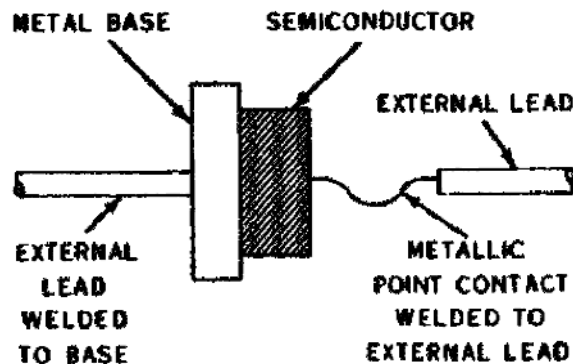

Figure 112. Physical construction of a point-contact diode.
16. **Point-Contact Diode.** Another type diode is the point-contact diode, shown in figure 112.